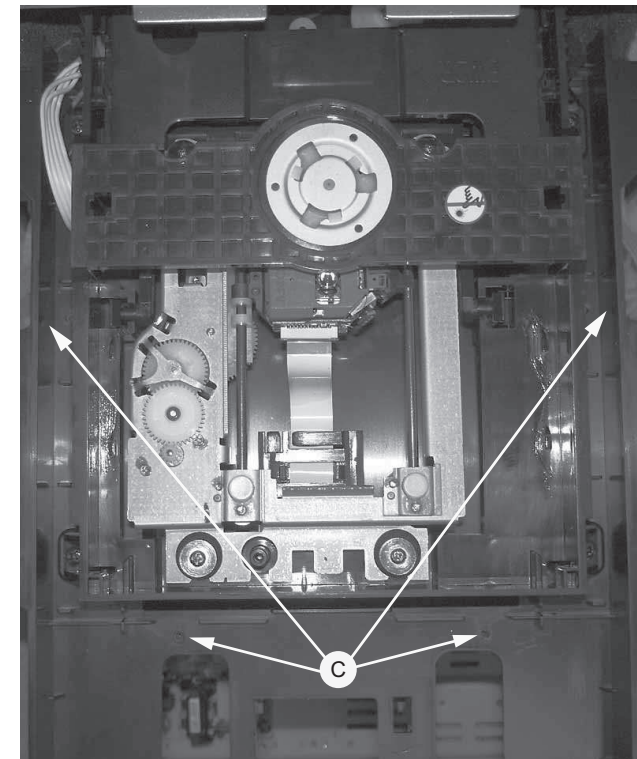

figure 5
- 4) Loosen the 4 screw "C" as shown in figure 5 to remove DVD loader bracket